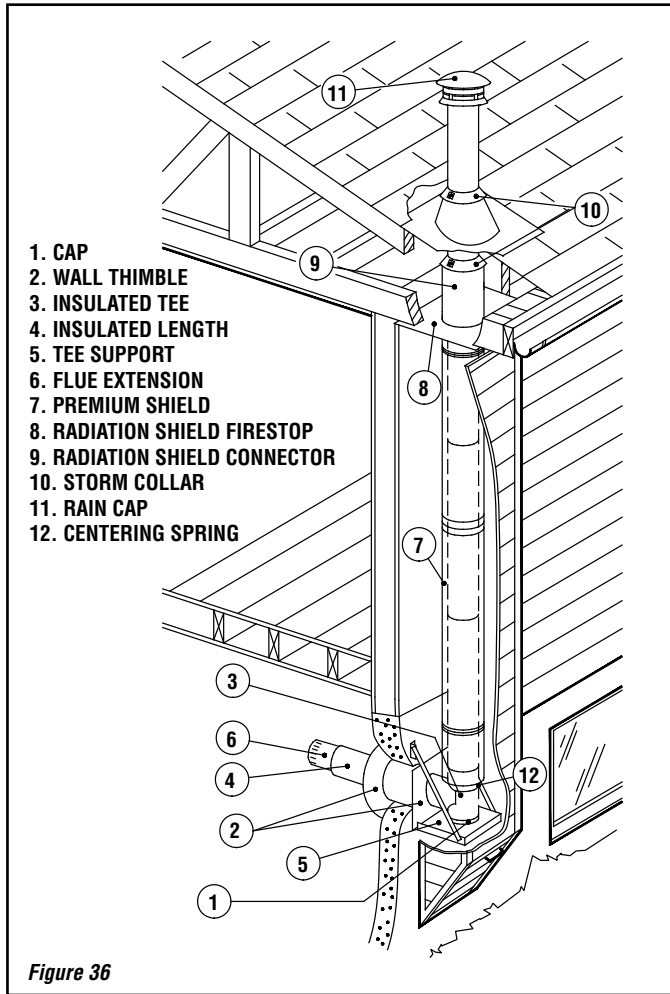

Figure 36
1. The chimney may be enclosed or unenclosed. **If enclosed at 2" clearance all around the chimney on a wood stove application, a Premium shield must be installed around the chimney (Figure 36).**
8. **The minimum distance between the bottom of the support and any horizontal combustible (including the ground) is 6". This distance can be reduced to 2 inches by using an insulated tee cap (IC) in conjunction with a (AWS) wall support.**
9. The adjustable support (AWS) may only be installed with an insulated tee cap (IC).